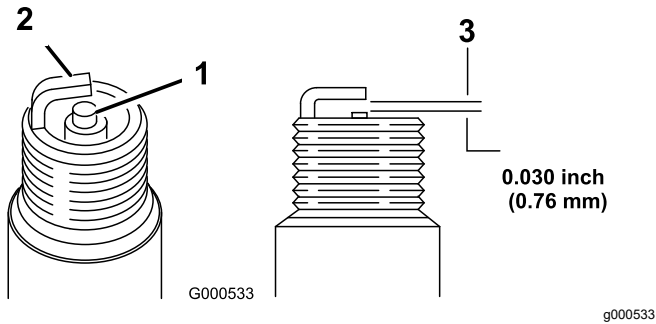

Figure 20
5. Set the gap on the plug to 0.76 mm (0.030 inch); refer to Figure 20.